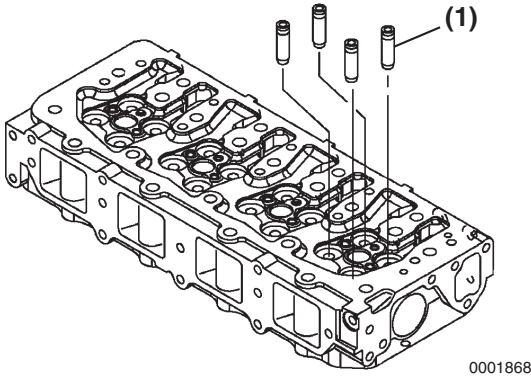

Figure 6-47
1. Using a drift pin and hammer, drive the valve guides (**Figure 6-47, (1)**) out of the cylinder head.